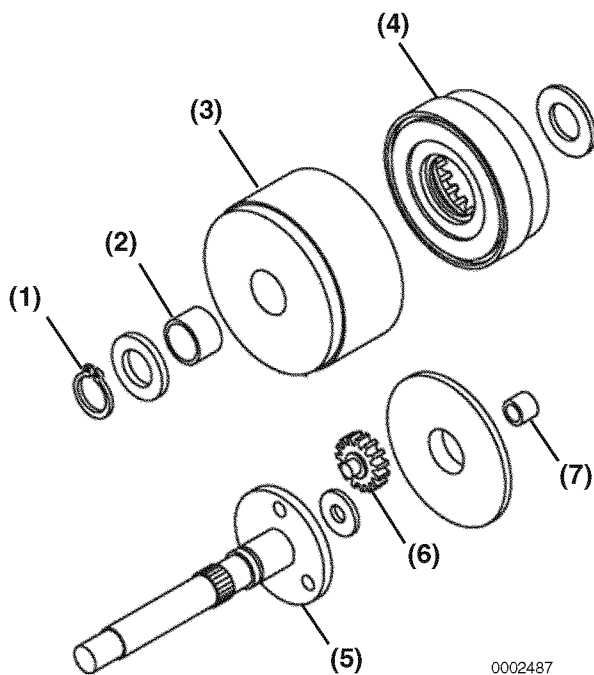

Figure 10-11
14. Remove the snap ring (**Figure 10-11, (1)**). Remove the pinion shaft (**Figure 10-11, (5)**), planetary gears (**Figure 10-11, (6)**), washers, and reduction gear (**Figure 10-11, (4)**) from the intermediate housing (**Figure 10-11, (3)**).
15. Inspect the intermediate bushing (**Figure 10-11, (2)**) and replace if worn or damaged.
16. Inspect armature bushing (**Figure 10-11, (7)**) and replace if worn or damaged.